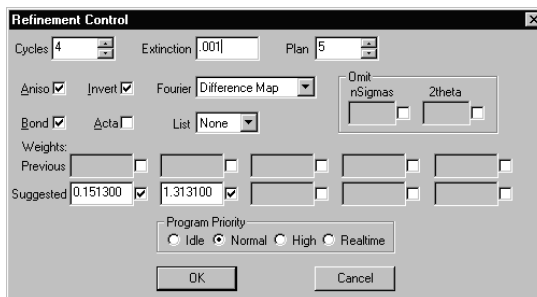

Figure 6-30. Refinement control
34. Click the Refine button at the top of the XSHELL Menu. A panel will appear (Figure 6-30).